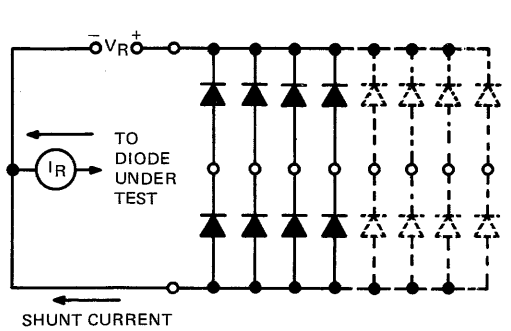

FIGURE 1—TEST CIRCUIT FOR COMMON-CATHODE DIODES
NOTES: 3. Test conditions and limits apply separately to each of the diodes. The diodes not under test are open-circuited during the measurement of these characteristics except for the measurement of I_R on arrays having both common-cathode and common-anode diodes (see Figures 1 and 2).
4. For arrays having both common-anode and common-cathode diodes see Figures 1 and 2, Parameter Measurement Information section.